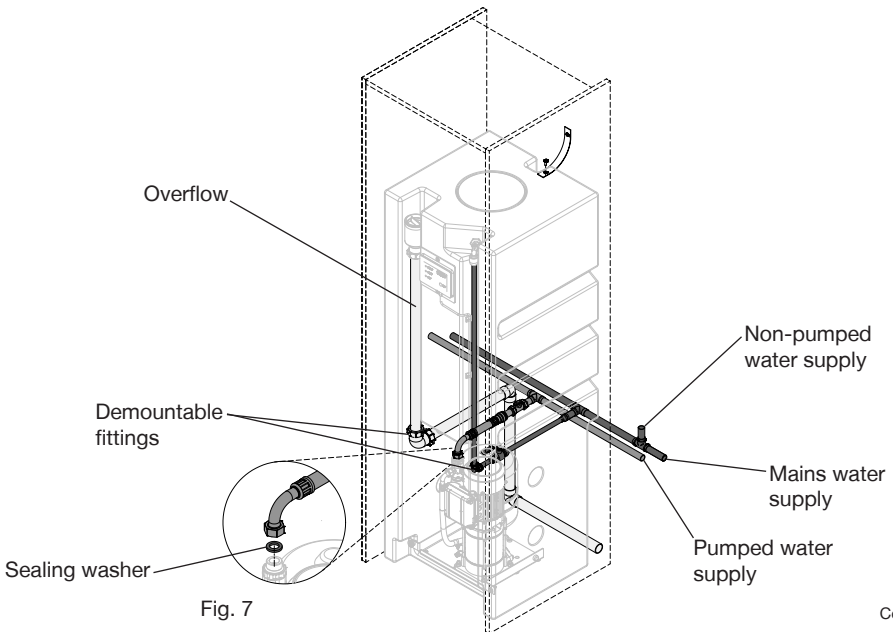

Fig. 7
Ensure there is a demountable joint in the pipe to allow the removal of the iBoost if needed (see Fig. 7).
4.13 **Connection to overflow/warning pipe:** The overflow fitting is designed to use 1 ¼ " (35 mm OD) plastic waste pipe. Ensure there is a demountable joint in the pipe to allow the removal of the iBoost if needed (see Fig. 7). The overflow must be free to vent to atmosphere either via a tundish or a dedicated external pipe.
Connect the services using isolation valves and demountable fittings (push-fit or compression) where shown in Fig. 7. The positioning of these fittings allow the iBoost to be removed without cutting pipes or draining the system.